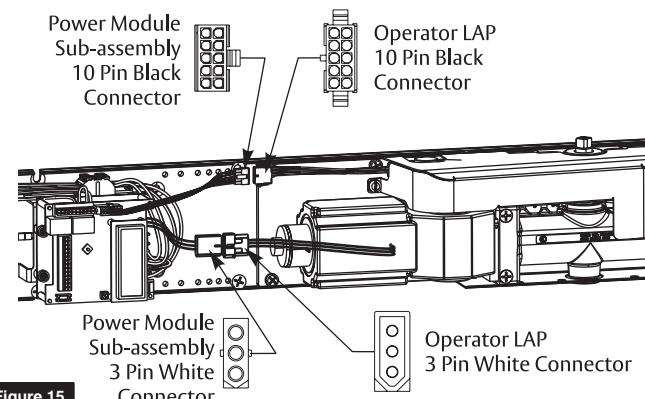

Figure 15
- Attach 10-pin black connectors between operator LAP and power module sub-assembly. (Figure 15)
- Attach 3-pin white connectors between operator LAP and power module sub-assembly. (Figure 15)